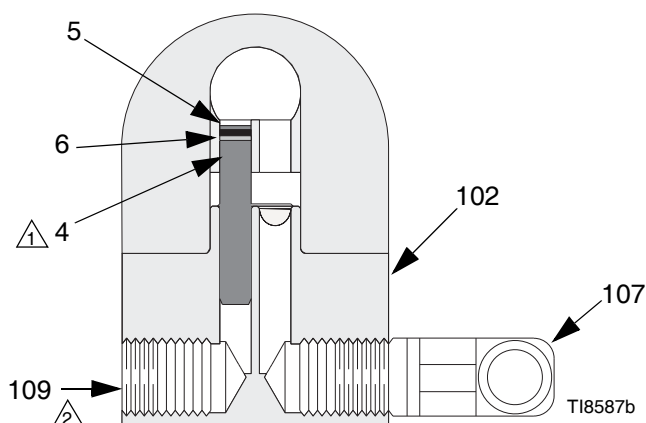

FIG. 1: Non-Circulating Setup (Cutaway View)
The gun is supplied with an internal fluid plug (4). See FIG. 1. To use the gun in a circulating system, remove the internal plug. In a non-circulating system, leave the plug in place to minimize flush time.
1. Apply anti-seize lubricant 222955 to the threads and mating faces of manifold (102), plug (109), and elbow (107), supplied unassembled.
2. Install an elbow (107) in one fluid port of the manifold (102), and a plug (109) in the other port.
3. Install the internal plug (4) in the gun fluid port on the same side as the manifold plug.
4. Connect the fluid supply line to the manifold elbow (107). See FIG. 1.
5. Install the gun on the manifold, using the four screws (14). Start the threads of all four screws, and tighten the front two screws first, and then tighten the back two screws to 65 in-lb (7.3 N•m).